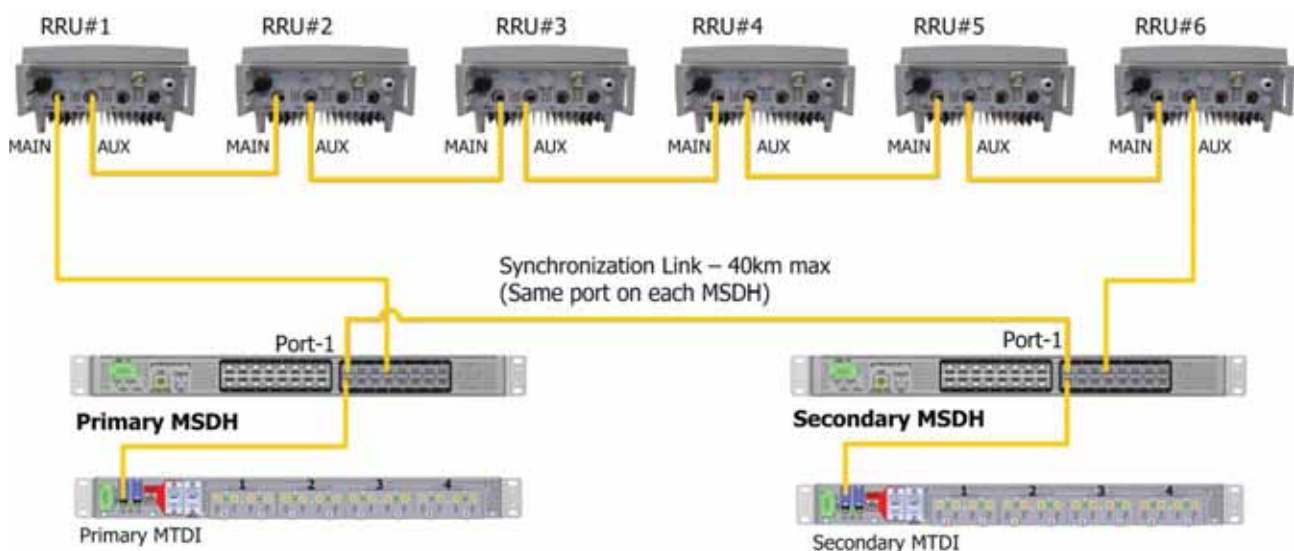

Figure 4-13. Physical Connections of the RF Source Redundant idDAS Systems
*The MSDH units in each RF supply chain can be located at a distance of up to 40 km from each other, and are interconnected via an Ethernet connection.* For an overview and detailed description of the topology, refer to Section 2.4.1. The topology is illustrated in Figure 4-13.